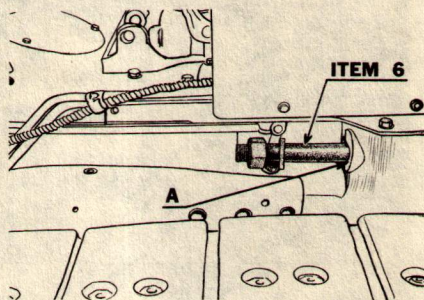

Figure 8 Placing Stud through Case
ITEM 6 - Figure 8
Remove the cork plug from the left side of the tractor casting as illustrated in (A), Figure 8. Remove one nut and lockwasher and insert stud through the tractor frame casting.